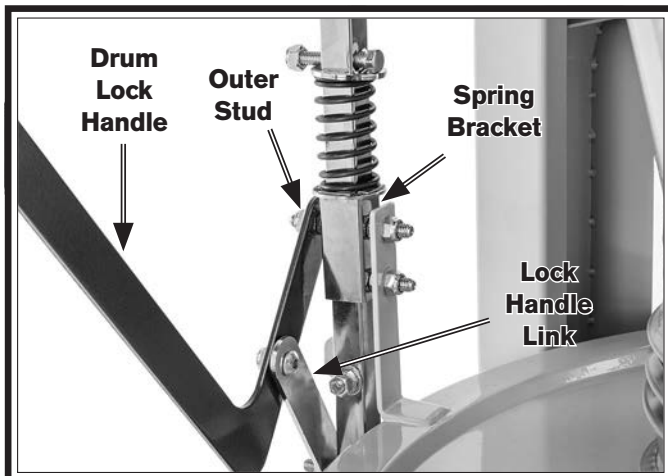

Figure 16. Lock handle attached to spring bracket and lock handle link.
12. Using pre-installed fasteners, place upper end of drum lock handle over outer stud on spring bracket, then attach lock handle link to lower hole on lock handle (see **Figure 16**).